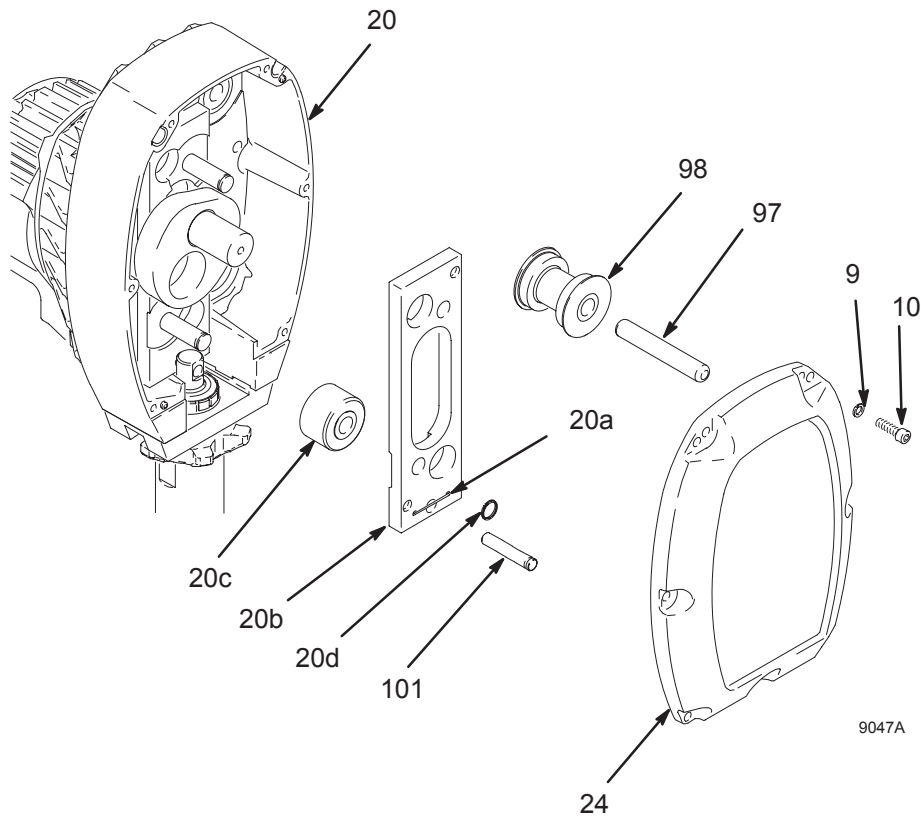

Fig. 4
3. Fig. 4. Remove six cap screws (10), lock washers (9) and cover assembly (24).